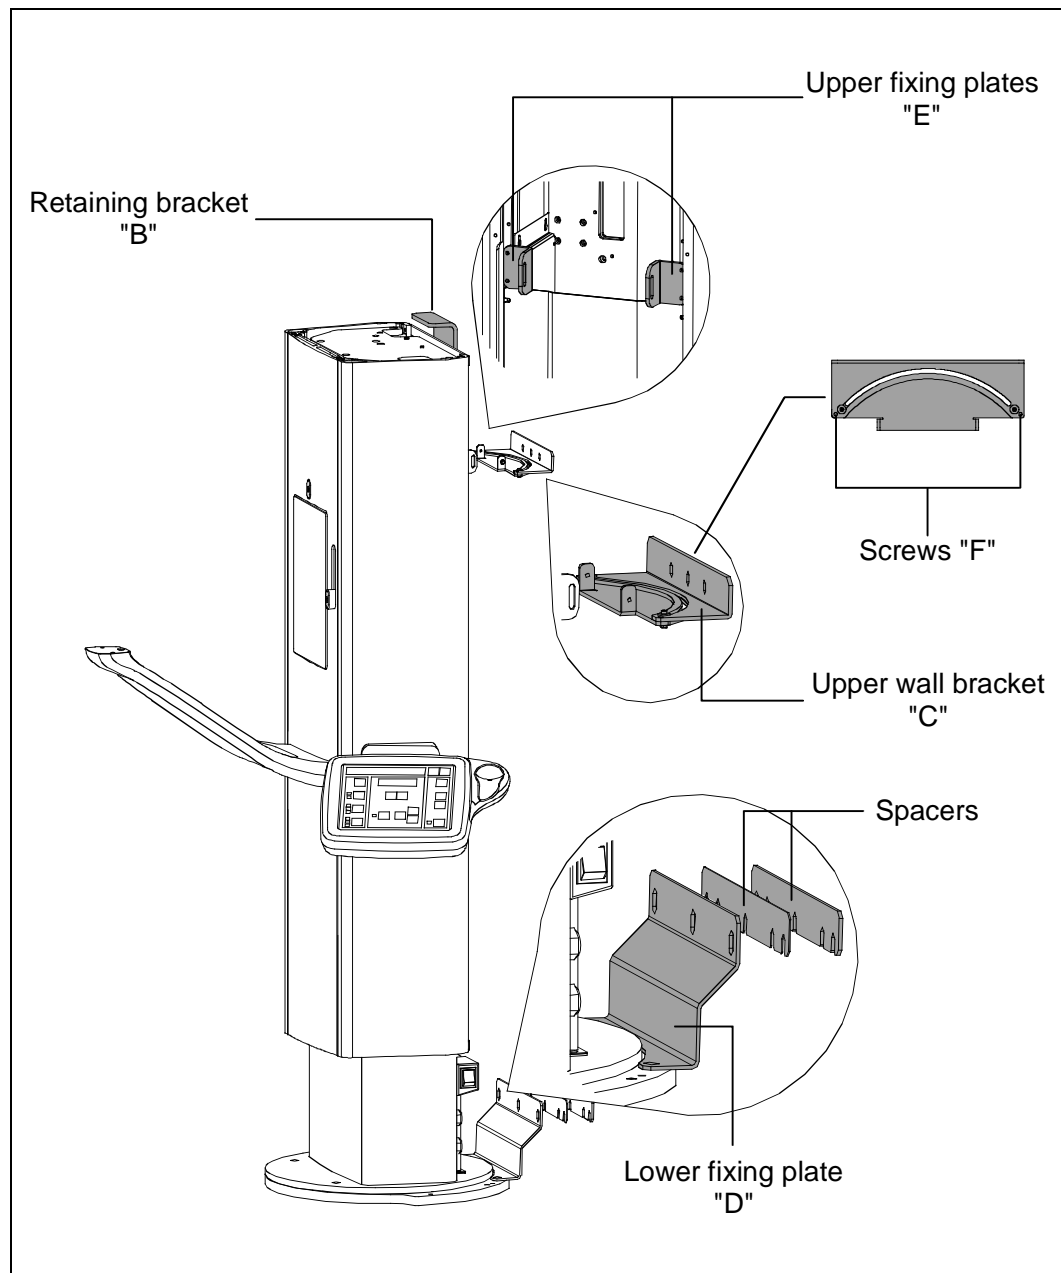

Figure 6-3
3. Mount on the column basement the lower fixing plate "D" and mount on the column the upper fixing plate "E" (Figure 6-3).
5. Mount the upper wall bracket "C" on the fixing plates "E" (Figure 6-3), without tighten the screws.
In order to correct this position, it is possible to insert some spacers (Figure 6-3 - provided with the column) between the lower bracket and wall. Once the position is reached, tighten the screws.
To easily reach the back side of the column leaving it hook to the wall, remove the fixing screws located in the back side of the column basement and remove the two screws "F" (Figure 6-3) from the upper bracket "C". Rotate the column.
1. Remove the column rotation fixing screw, located in the back side of the column basement and remove the two screws "F" (Figure 6-3) from the upper bracket "C".
If necessary, to easily access to the covers back side screws, remove the column rotation fixing screw, located in the back side of the column basement and remove the two screws "F" (Figure 6-3) from the upper bracket "C". Rotate the column in clockwise direction in order to reach the column back side.